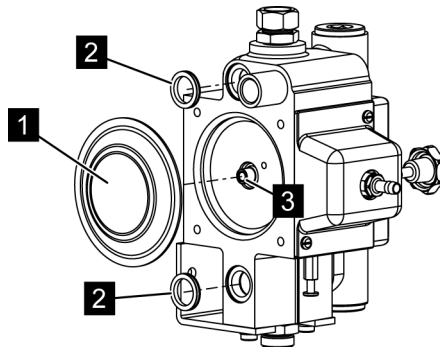

Fig. 10: Unscrewing the diaphragm
5. ➤ Unscrew the diaphragm (Fig. 10/1) from the control pin (Fig. 10/3).
7. ➤ Replace the O-rings (Fig. 10/2).
8.  Screw new diaphragm (Fig. 10/1) firmly onto the control pin (Fig. 10/3).